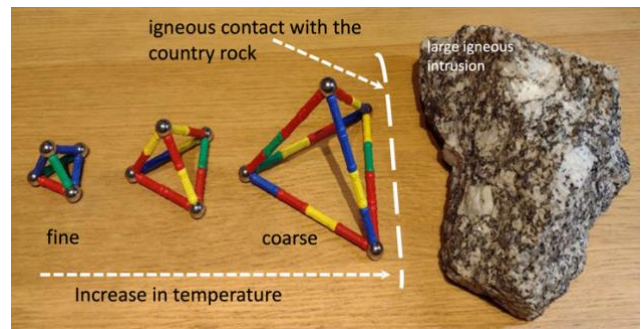

Fig 3. Tetrahedra arranged to simulate the change in crystal size with distance from a large igneous intrusion (Pete Loader)
- discuss their reasoning (Fig 3).
The simulation provides a model relating crystal size to the rates of cooling. Usually, the larger the crystal size of an igneous rock, the slower the cooling rate and vice versa. Coarse crystalline igneous rocks (granite or gabbro) form slowly at depth, whereas finer crystalline volcanic rocks, such as basalt, represent lava that cooled quickly at the surface. Igneous rocks, with both large and smaller crystals (e.g. the granite in Fig. 3) are considered to have had two stages of cooling.